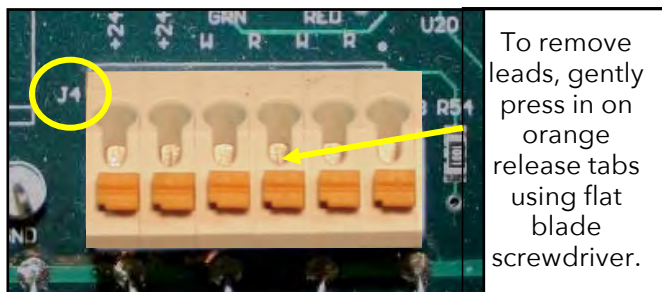

Figure 11. TERMINAL BLOCK J4.
16. By now, all six leads should be disconnected from terminal block J4. Refer to Figure 11. Make sure there are no more leads in J4.